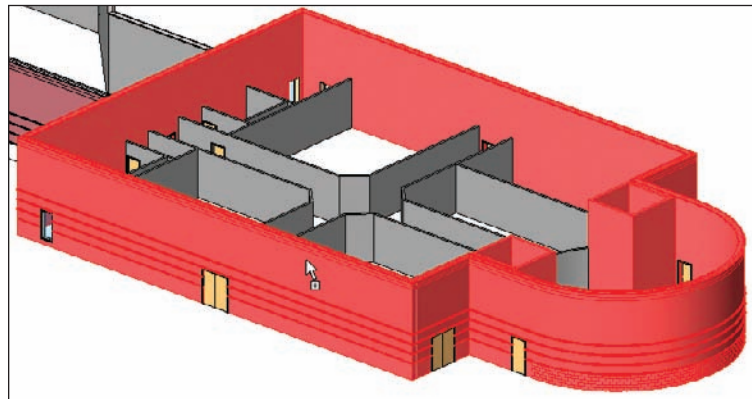

FIGURE 3.20 Selecting the walls that extend to the Parapet level
2. The next step is to select all the walls you want to be extended to the Parapet level. In this case, only the east building will go all the way up to this level. Select the walls as shown in Figure 3.20. (Be sure to select all of the elevator shaft walls as well.) You must hold the Ctrl key to add to the selection.